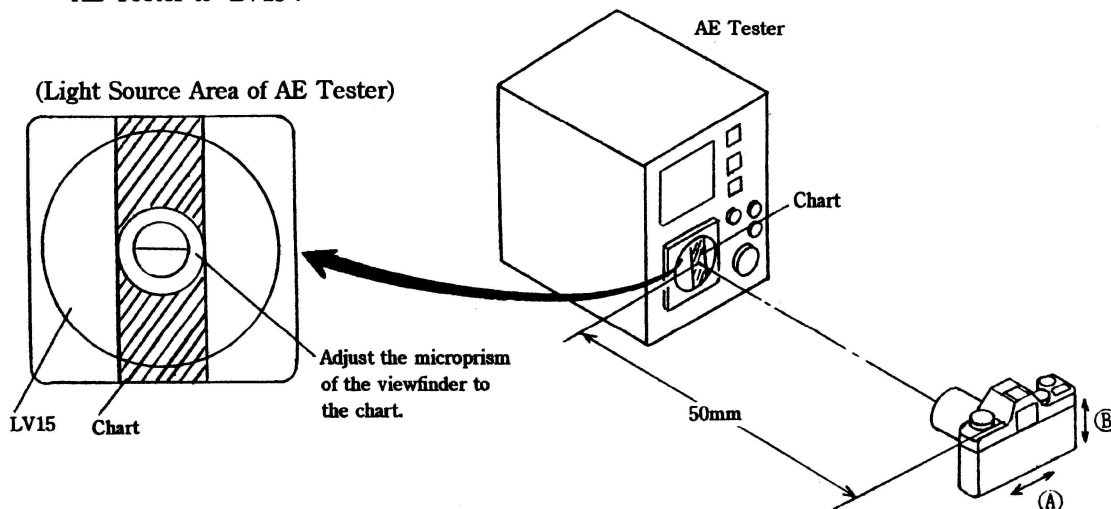

Fig. 74
- 9) Look into the viewfinder and swing the camera gently right and left (in the direction of the arrow (A)). (See Fig. 74)
- 13) Look into the viewfinder and swing the camera gently up and down (in the direction of the arrow (B)). (See Fig. 74)
- And adjust by turning the Adjusting Screw (b) so that the shutter speed indicator shows the slowest speed. (See Fig. 74)